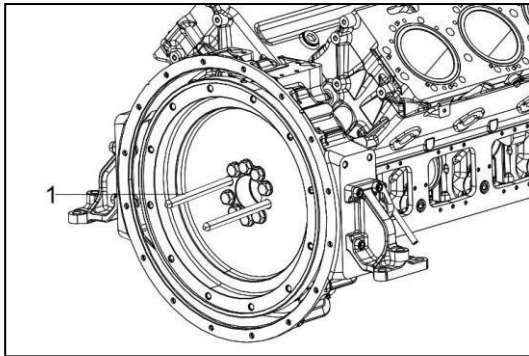

Figure 104
2. Remove two diametrically opposed bolts from the flywheel. Fit the flywheel guides (Figure 104, 1) instead.